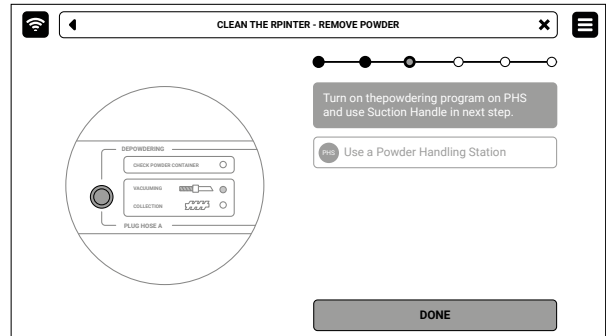

Fig. 9.3 Turn on the depowdering program on PHS.
4. If you have the PHS connected to the printer, a corresponding message will appear on the screen. Turn on depowdering program and press **DONE** on the screen (fig. 9.3)